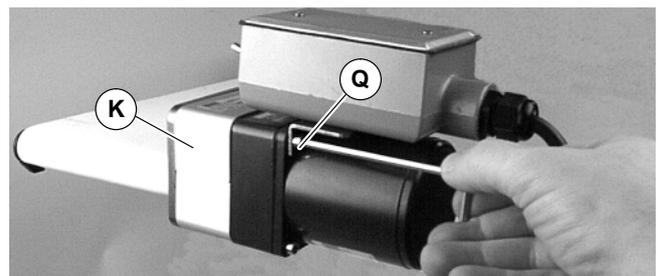

Figure 8
10. Insert top cover (K of Figure 8) into bottom cover. Attach top cover with two (2) top screws (Q). Tighten to 5 Nm.